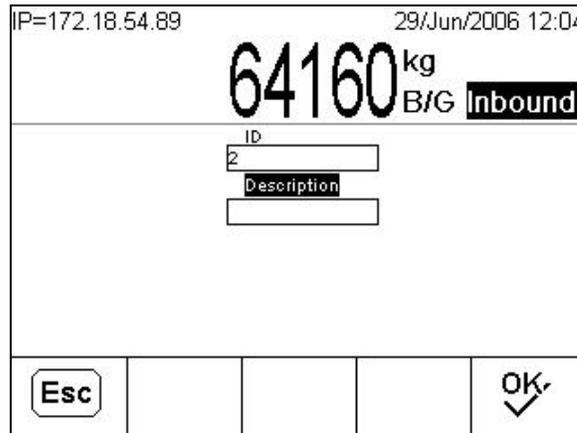

Figure 4-1: Temporary ID Transaction, One Step ID Assigned
2. A “Working” message displays briefly, and then a confirmation screen like the one shown in Figure 4-1 appears, with a number in the ID field.